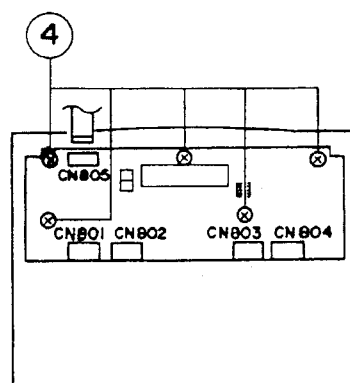

Fig. 4
■ LCD P.C. Board (refer to Fig.4)
1. Remove the five screws ④ retaining the LCD P.C. board from the CD player assembly.